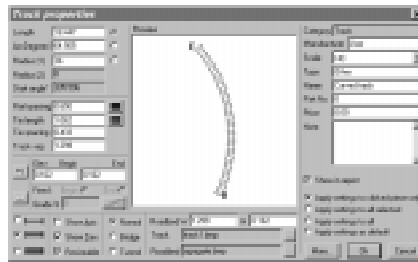

Fig. 3
Right click on the curve piece and then select Properties to bring up the Track Properties dialog (Fig. 3). Change the Radius (1) to 36.00 and then click on the